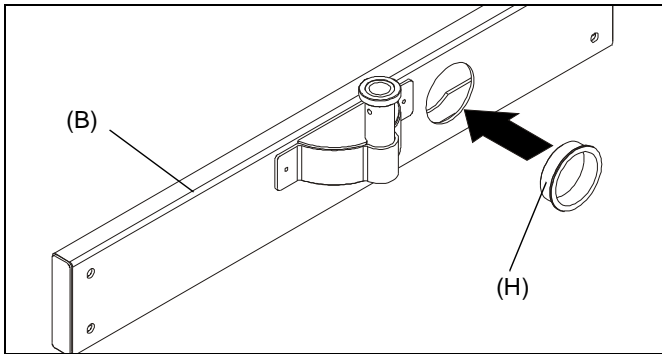
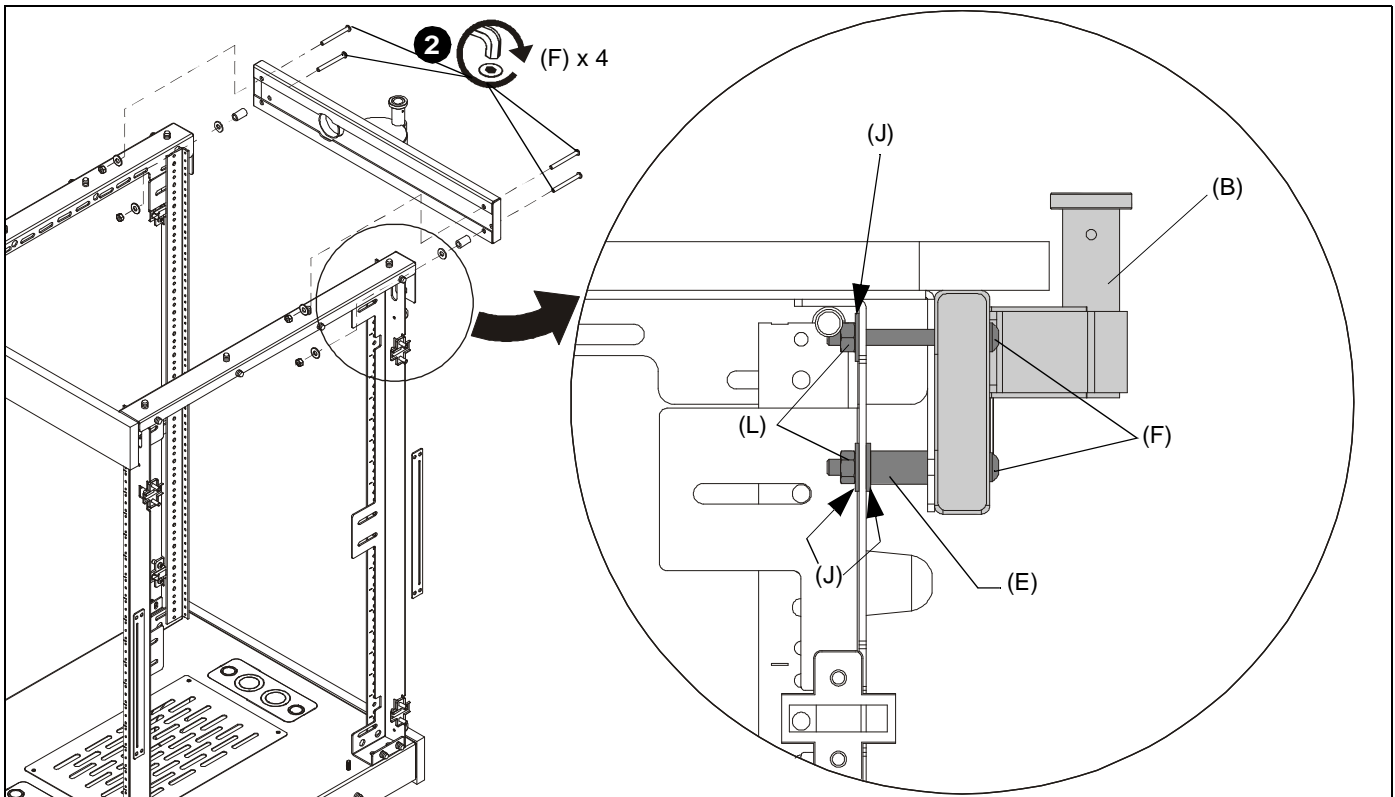

Figure 1
Figure 3
1. Insert snap bushing (H) into F1 monitor mount (B). (See Figure 1)
2. Attach F1 monitor mount (B) to back of F1 rack using four 1/4-20 x 2-1/2" button head cap screws (F). (See Figure 1)
- In each top hole, also use a 1/4" washer (J) and a 1/4" nut (L).
- In each lower hole, also use two 1/4" washers (J), one spacer (E) and a 1/4" nut (L). (See Figure 3)